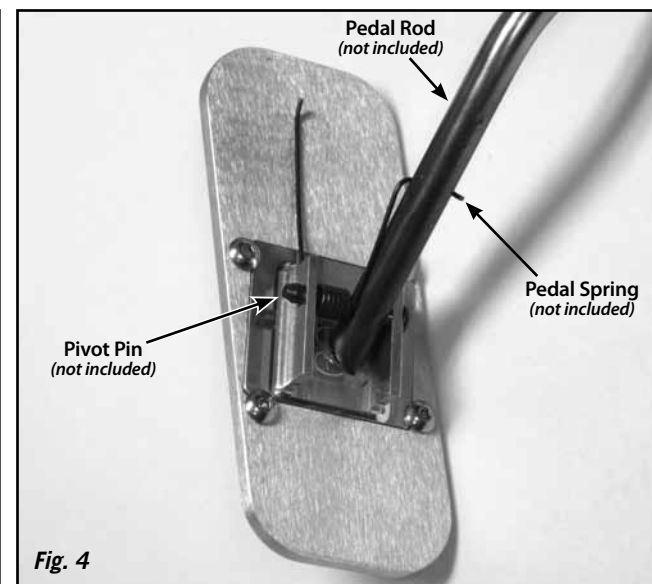

Fig. 4
Step 3: Position the throttle pedal pad on the pedal rod. Insert the original pivot pin (not included) through the left side of the throttle pedal back, and then through the pedal rod. Position the original throttle pedal spring (not included) into the throttle pedal back. Push the pivot pin through the throttle pedal spring and then through the right side of the throttle pedal back. Fig. 4